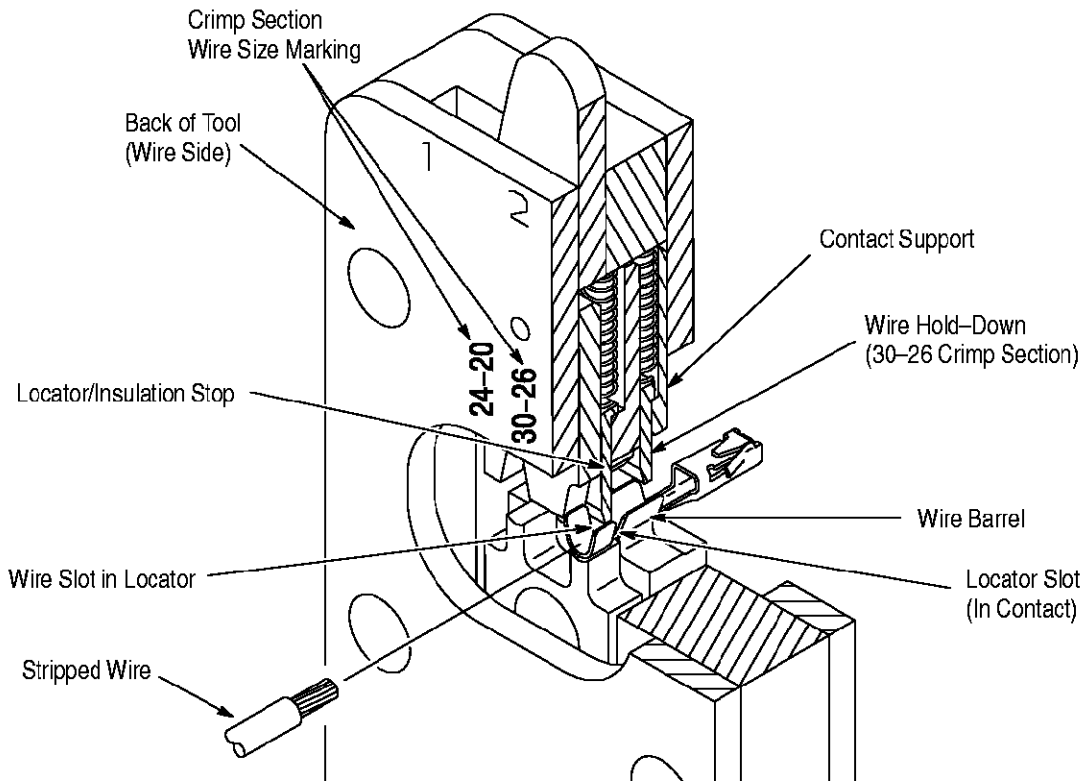

Figure 3
2. Select an applicable loose-piece contact and identify the appropriate crimp section according to the markings on the back of the tool. See Figure 3.